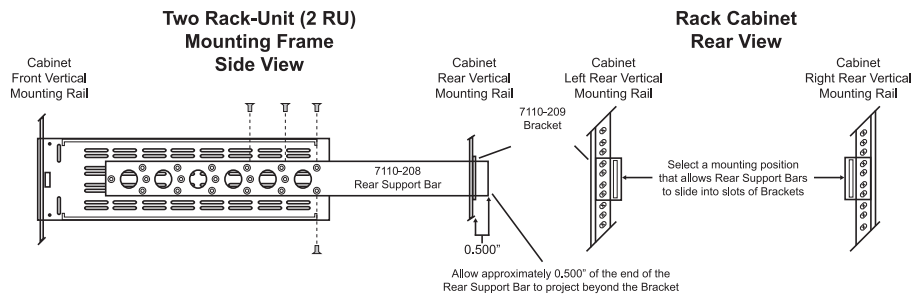

Figure 1.1 Installing the Support Brackets
The AFR-7812C mounts in the rack cabinet by means of four screws through the front mounting flanges. This should normally be sufficient to carry the load, including weight of cables. In some cases, (mobile trucks, etc.) it may be desirable to also support the rear of the frame. Rear support brackets (Ross part #FSB-7110) are available for a nominal cost. The rear support bars can be attached to the AFR-7812C in six possible positions (**Figure 1.1**).
2. Using four screws per bracket, as shown in **Figure 1.1**, attach both bars.